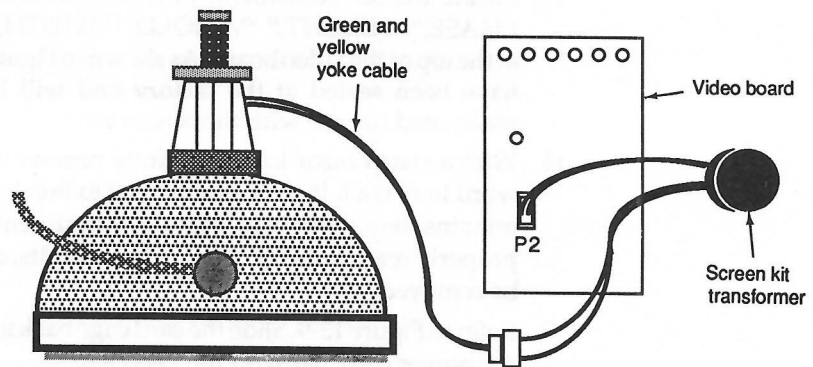

Figure 13-32 XL screen kit wiring details.
12. Unplug the green and yellow CRT (yoke) to P2 cable from the video board. As illustrated in Figure 13-32, P2 is located approximately halfway down the left side of the board.